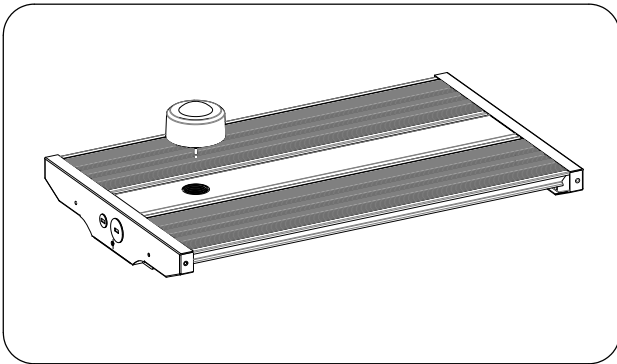
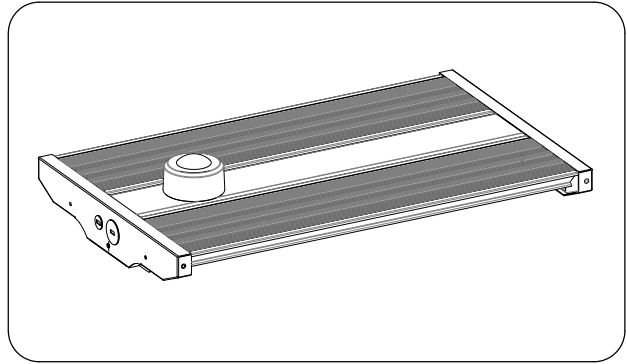

Figure 3
Figure 4
Step 2: Insert sensor into the audio jack and turn the sensor clockwise to complete installation. (Figure 3 and Figure 4)